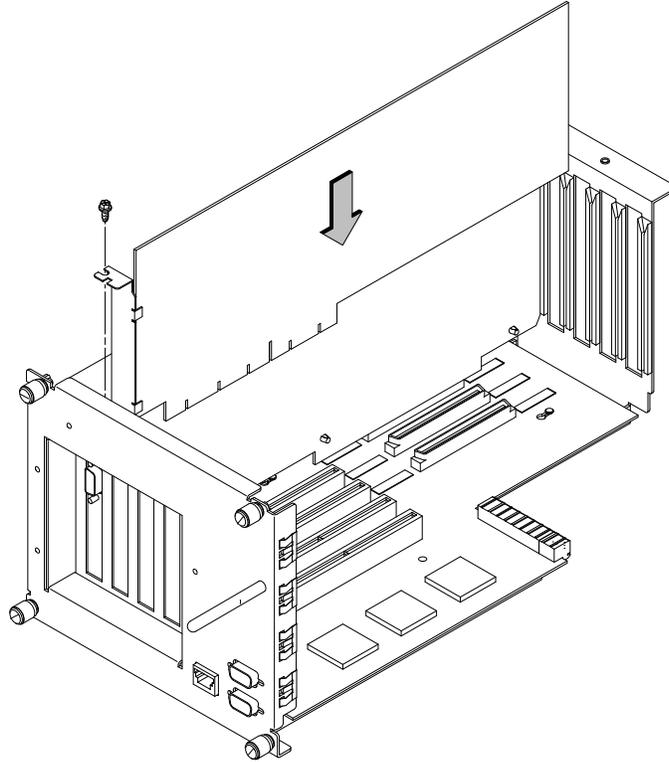

Figure A-36. Installing an EISA or Graphics Board in the EISA Assembly
5. Place EISA or graphics board you are installing in the board guides and slide firmly into the connector. Check to see the board is evenly inserted to seat properly. See Figure A-36.